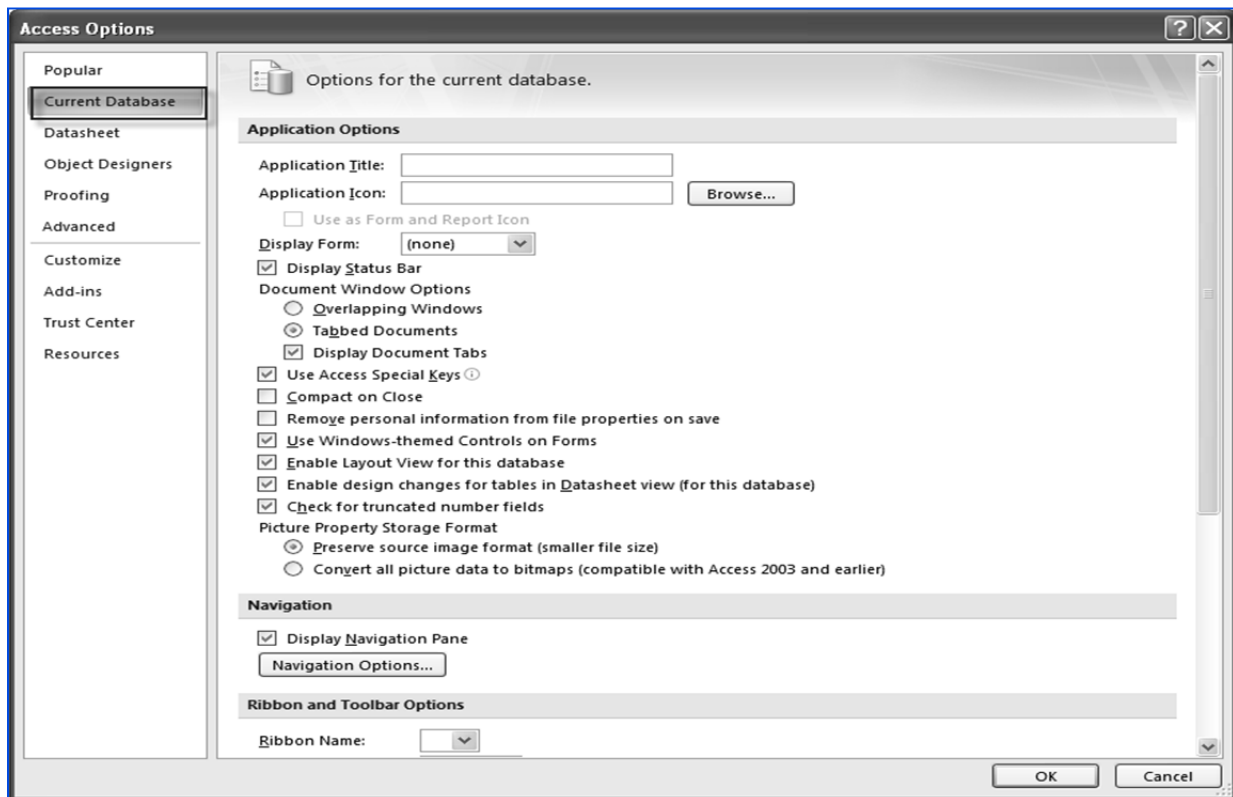

Fig. 4.3.29: Select Current Database
3. The *Access Options* window appears select *Current Database* from the left tab, as shown in Fig. 4.3.29.